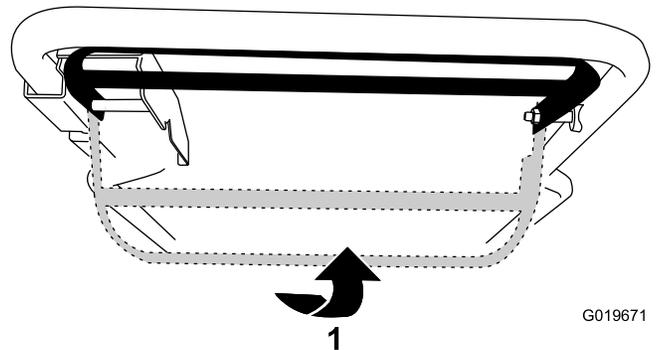

Figure 18
- To operate the self-propel drive without engaging the blade:** Raise the blade-control bar to the handle (Figure 18).